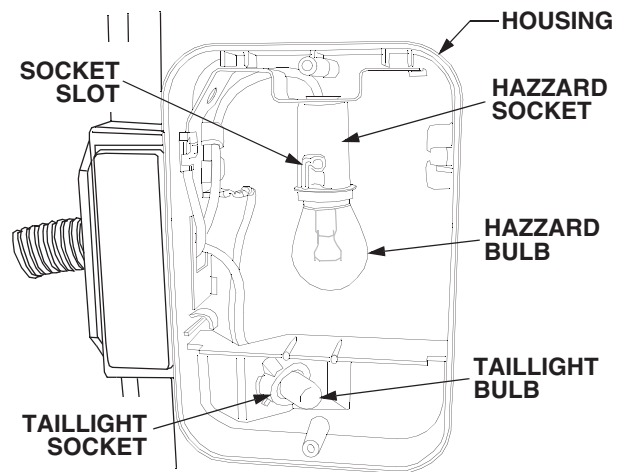

Figure 38
- Remove the taillight bulb by simply pulling the bulb from the taillight socket. Replace with a like bulb. Align the bulb terminals with the socket terminals, and push the new bulb fully into the socket. Refer to Figure 38.
- To remove the hazzard bulb, push the bulb upward in the socket and turn counterclockwise to remove the bulb from the light socket. Refer to Figure 38.